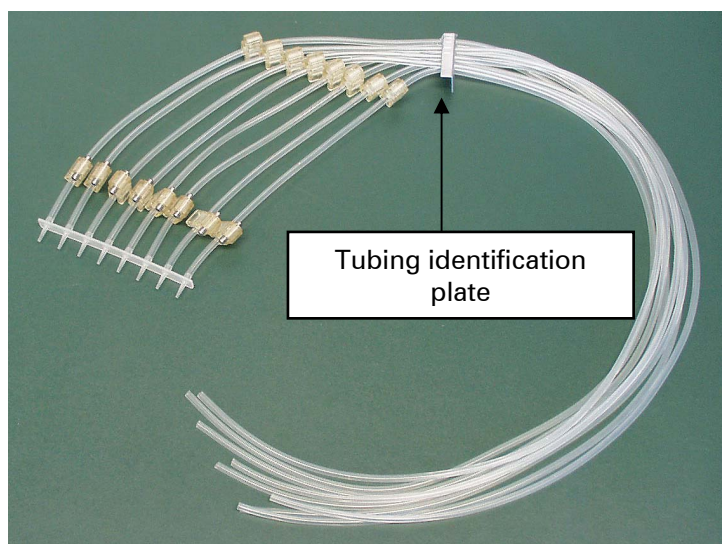
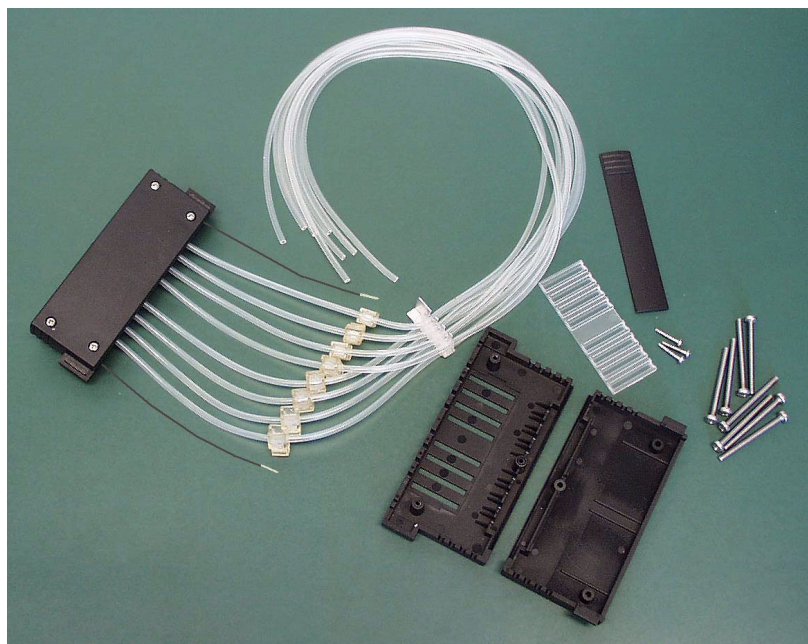
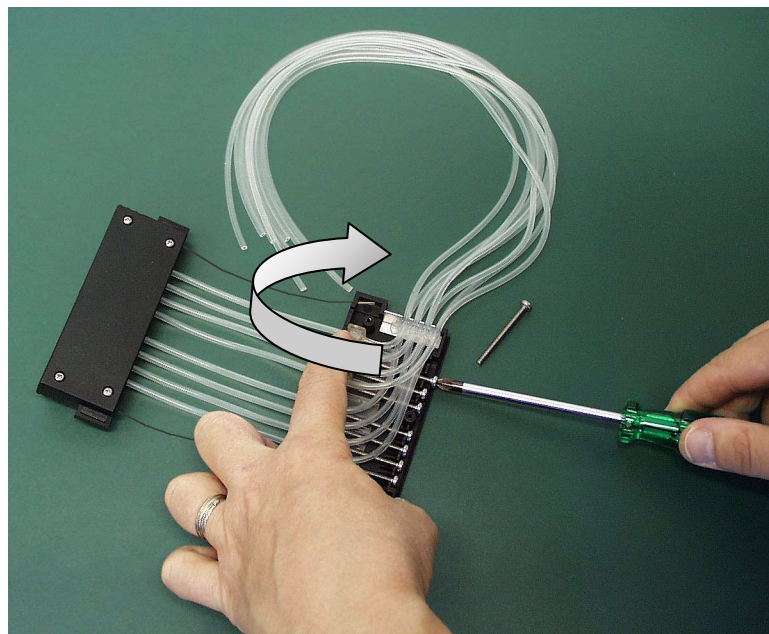
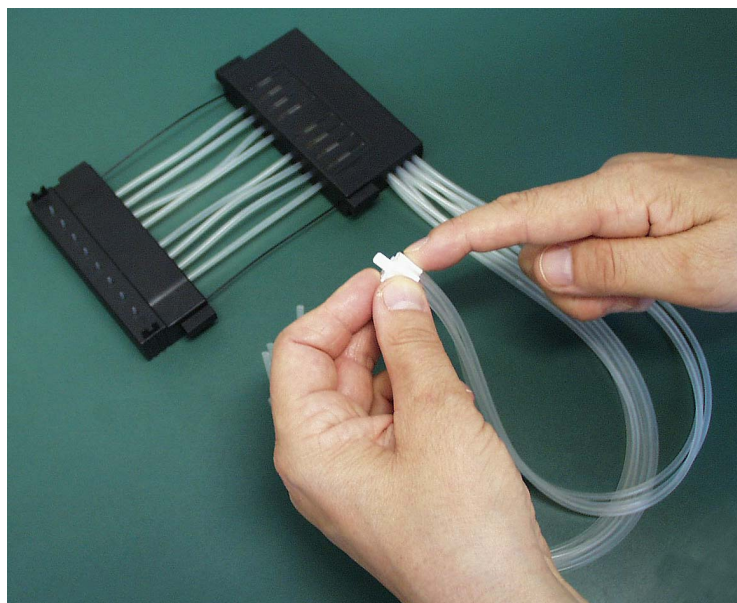

Fig. 7.15 New tubing set with the tip band attached
Fig. 7.21 Parts belonging to the upper part of the dispensing cassette
Fig. 7.25 Fastening the calibration screws
Fig. 7.35 Inserting the tubes into the tubing weight
1. First place the new tubing set onto the laboratory bench with the tip band attached (*Fig. 7.15*). Ensure that you have saved the eight calibration screws (*Fig. 7.21* and *Fig. 7.25*) and the tubing weight (*Fig. 4.4*, item 7 and *Fig. 7.35*) from the previous tubing set.
6. Once the lower part of the dispensing cassette has been fitted, place the remaining parts belonging to the upper part of the dispensing cassette onto the laboratory bench (*Fig. 7.21*).
10. Fasten the calibration screws from the previous tubing into their places using a hexagonal screwdriver (*Fig. 7.25*).
19. Insert the eight tubes into the tubing weight either at this stage or earlier (Fig. 7.35). The new tubing set has now been successfully fitted.